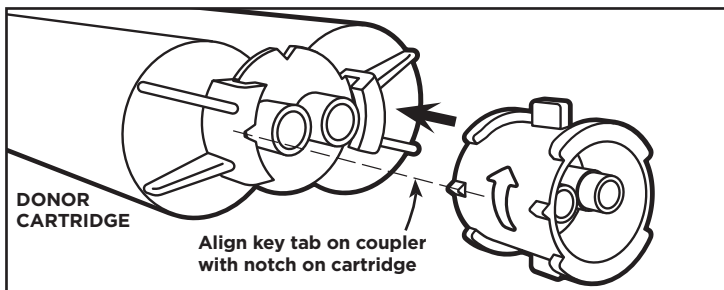

Figure 1. Push coupler onto mouth of donor cartridge.
2. Push coupler onto mouth of donor cartridge (Figure 1). Make sure key tab on coupler slides into notch on cartridge. **DO NOT** rotate coupler at this time.